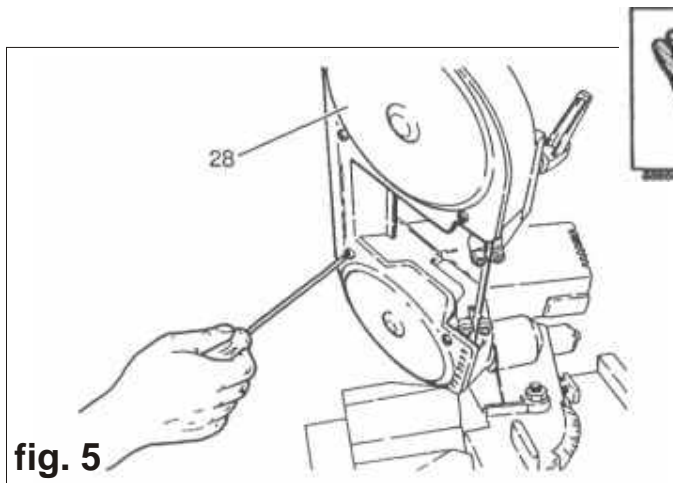

fig. 5
- Remove the protective guard (28). (fig. 5)
- Turn the lever (29) towards the position “-”.